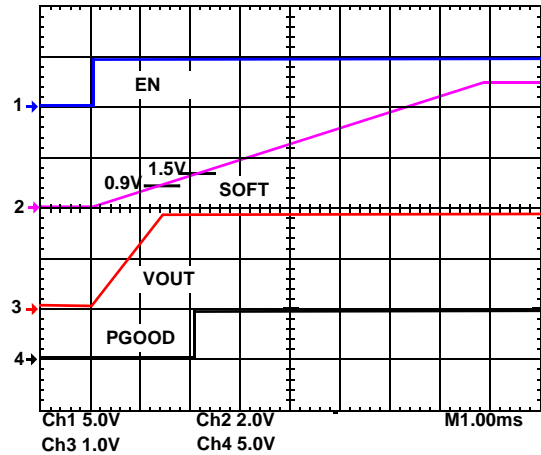

FIGURE 1. START-UP
1.5V, the power good (PGOOD), the mode control, and the fault functions are enabled, as depicted in Figure 1.